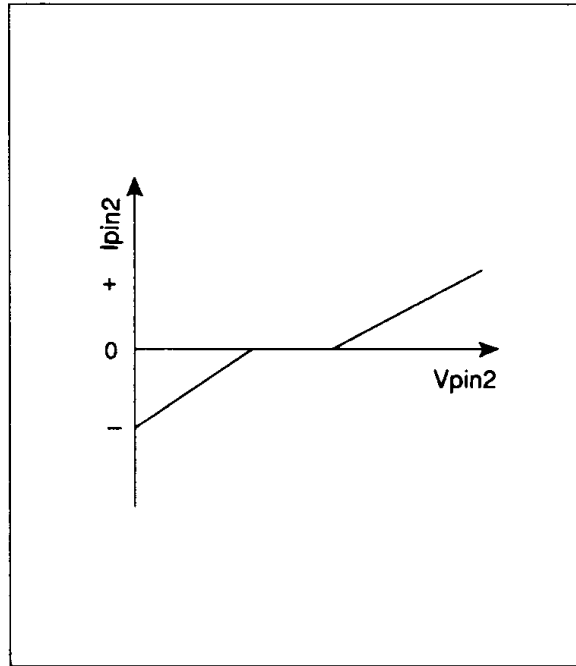
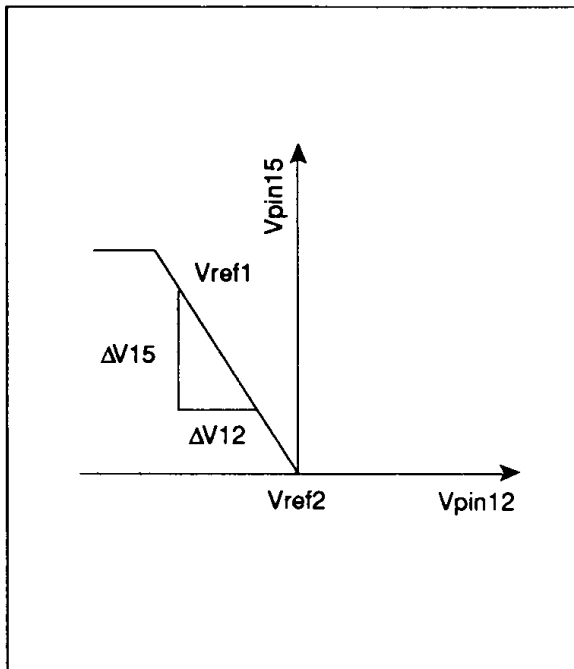

Figure 2
Figure 3
3. See Figure 2.
5. Voltage from V_{ref2}.
6. See Figure 3. $G_{ct1} = 20 \log_{10} \frac{\Delta V_{15}}{\Delta V_{12}}$